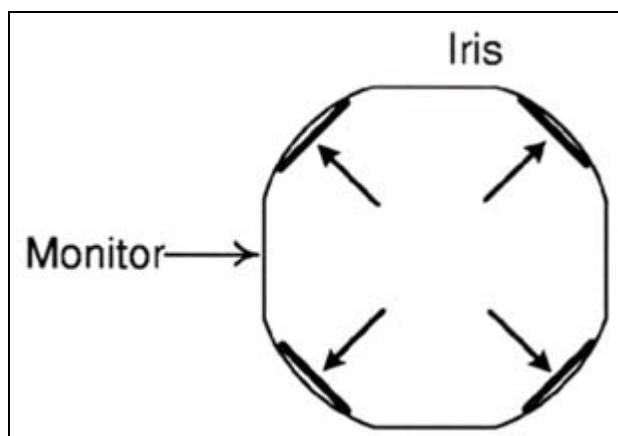

Fig. 8: X-iris
- Check that the X-iris diaphragm leaves are just visible centrally at the edge of the blanking circle (Fig. 8 / p. 17).